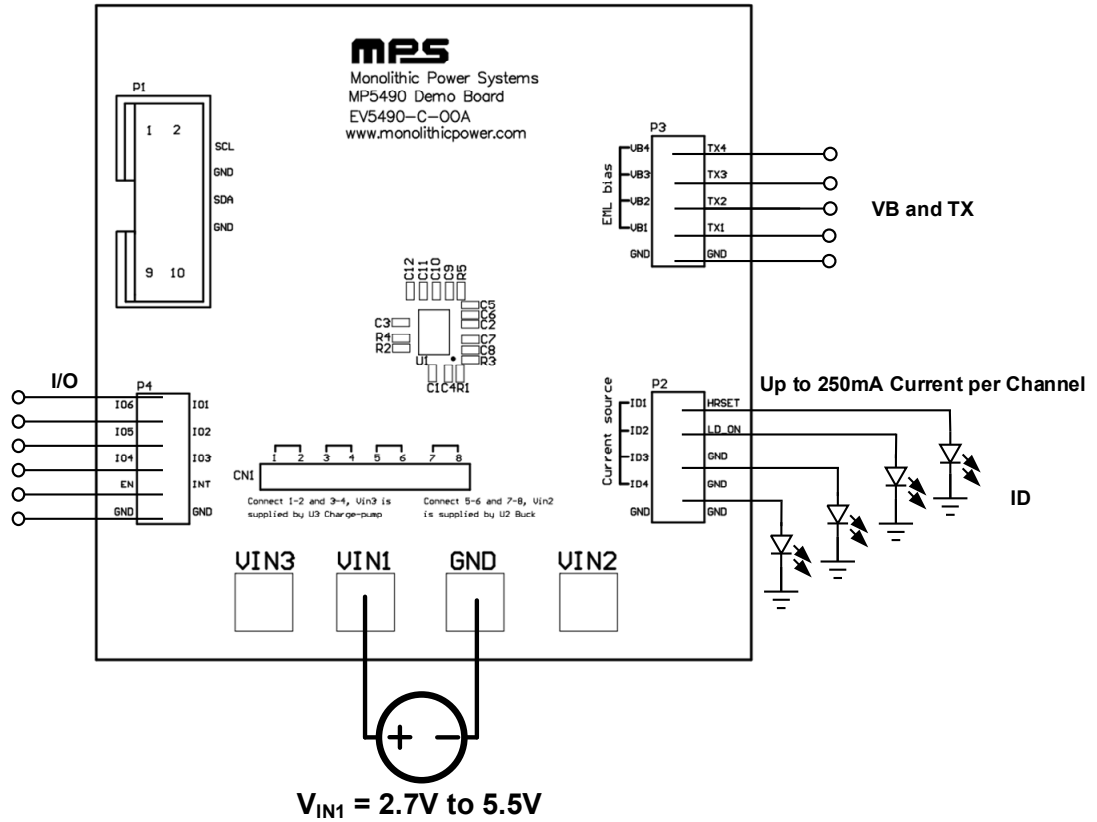

Figure 1: Measurement Equipment Set-Up
The EV5490-C-00A evaluation board is easy to set up and use to evaluate the MP5490's performance. For proper measurement equipment set-up, refer to Figure 1 on page 3 and follow the steps below:
- 3)  $V_{IN2}$  and  $V_{IN3}$  are powered by  $V_{IN1}$  by default, and there is no need for an external power supply.  $V_{IN2}$  is 1.8V, and  $V_{IN3}$  is equal to  $-V_{IN1}$  with a max 200mA  $I_{OUT}$ . If the sum of all load currents from the EML bias exceeds 200mA, remove jumpers 1, 2, 3, and 4 from CN1 (see Figure 1 on page 3), and use an external power supply to supply  $V_{IN3}$ .
- 4) There are two methods to change the  $V_{IN2}$  supply voltage. The first is to change the buck  $V_{OUT}$  via the MP5490's ADJ function, and the second is to remove jumpers 5, 6, 7, and 8 from CN1 (see Figure 1 on page 3), and use an external power supply to supply  $V_{IN2}$ .